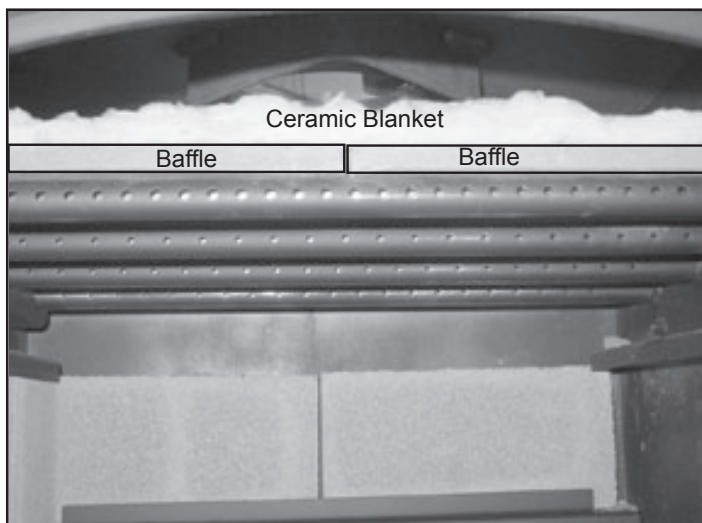

Figure 27.2
4. Re-install in reverse order. Be sure the baffle boards and ceramic blanket are in their proper positions (**Figure 27.2**).